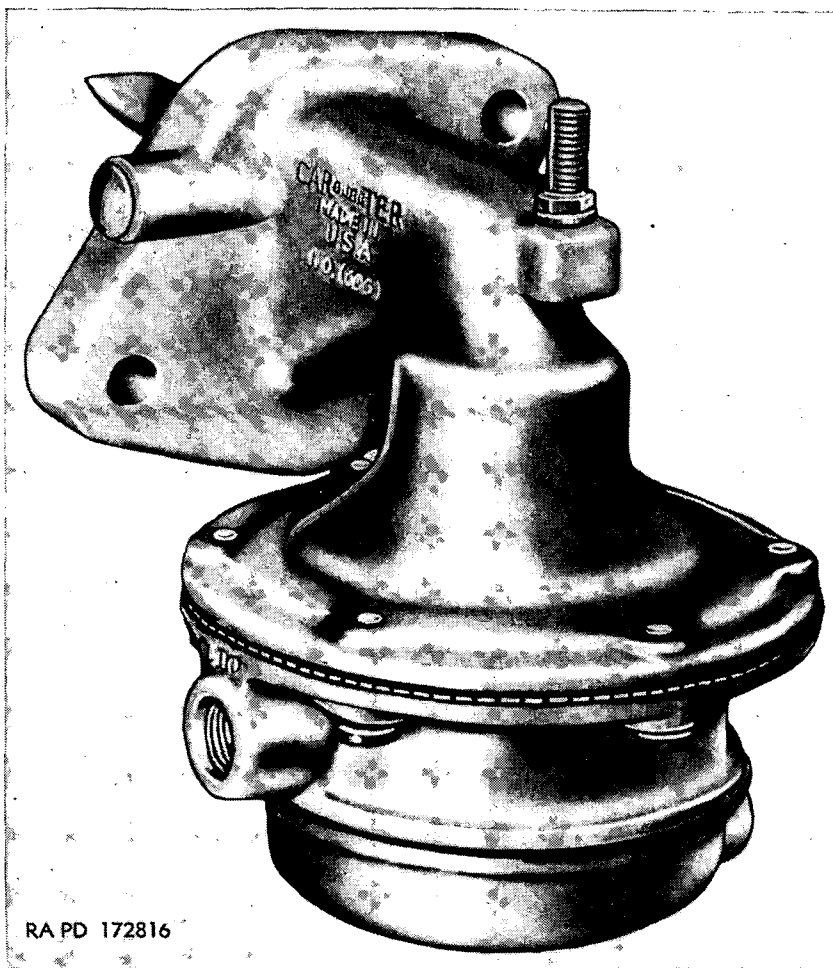

Figure 64. Fuel pump with screen filter (model M639S).
a. General. Repair and rebuild of all screen filter type fuel pumps are similar to the instructions contained in this section for the model M639S fuel pump (fig. 64). This model represents a typical screen